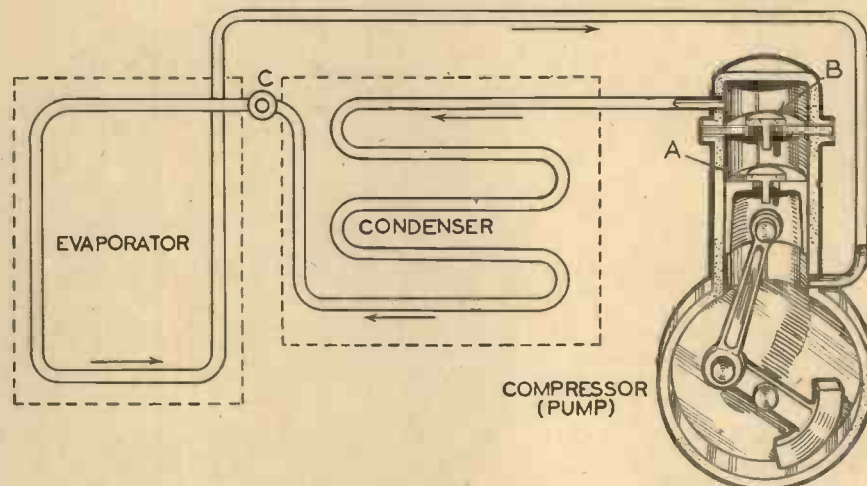

Fig. 4.—How the refrigerant is circulated.
The refrigerating machine is built in three separate units, (1) the pump, (2) the condenser, and (3) the evaporator or boiler. The pump is to circulate the refrigerant round the system, the condenser to extract the heat from the refrigerant and so liquify, and the evaporator or boiler to draw the heat from the surrounding objects or substances and so make them cold. Fig. 4 illustrates how the refrigerant is circulated.
It will be seen from Fig. 4, that the pump is so constructed as to enable the piston or bucket to take a sliding, up-and-down motion. (In large machines they are made to work backwards and forwards in an